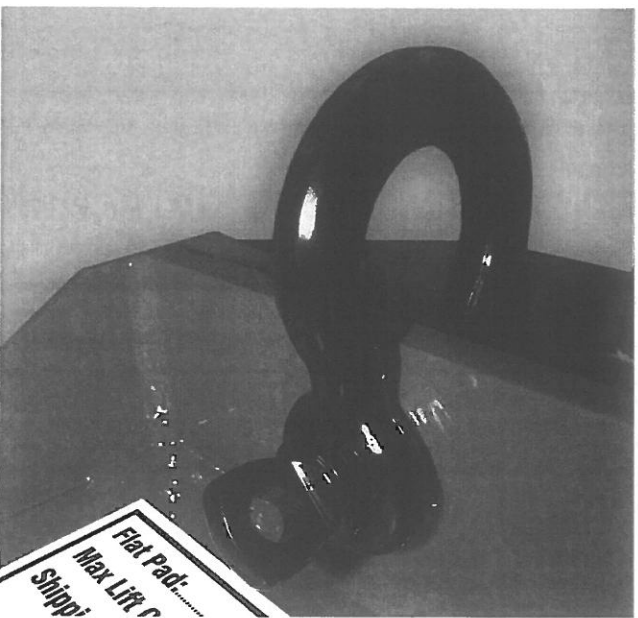

Fig. 1-5
2. Attach the pad to the host machine using the clevis hook supplied (Fig. 1-5)